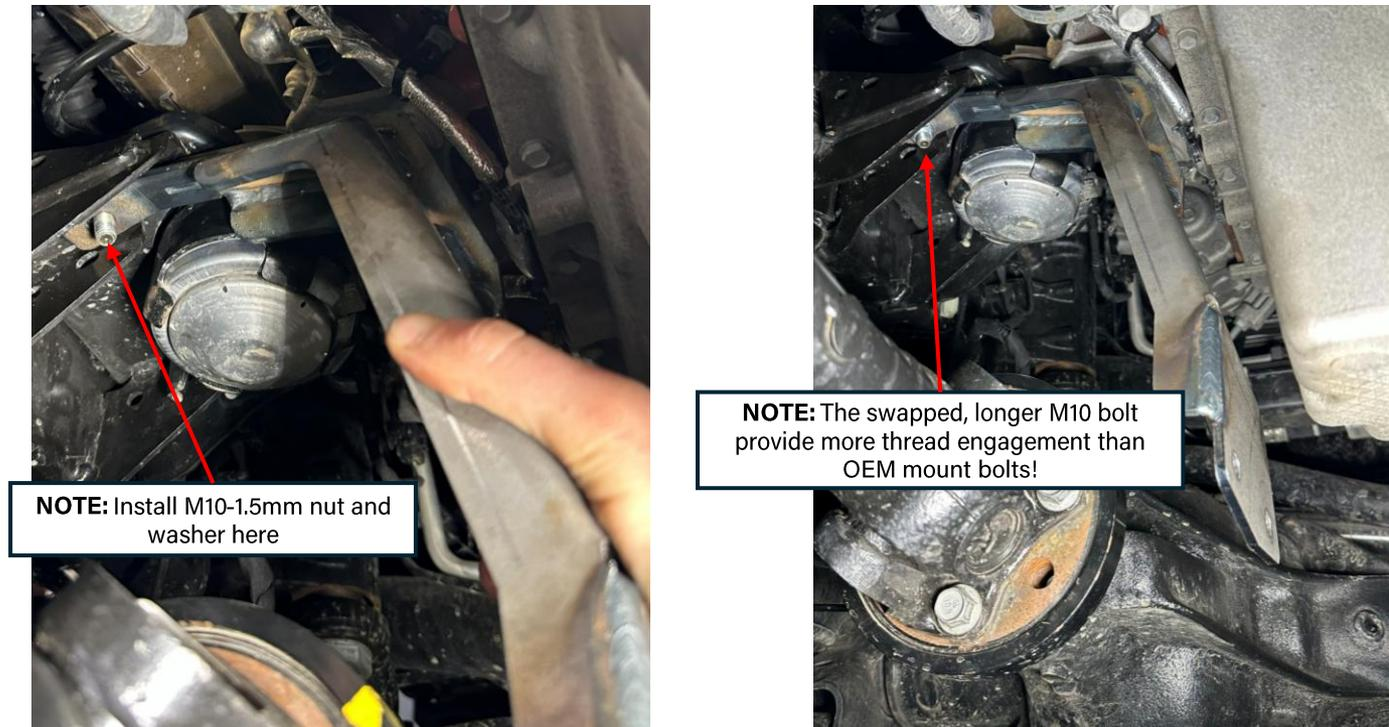

Figure 6: Motor mount bracket loosely installed
5. **Loosely** install the provided driver-side motor mount bracket. This bracket has a clearance bend for the driveshaft. See Figure 6 below for clarification. **Install below the motor mount using the provided M10 locknut and washer. Do not install the skid plate yet!**